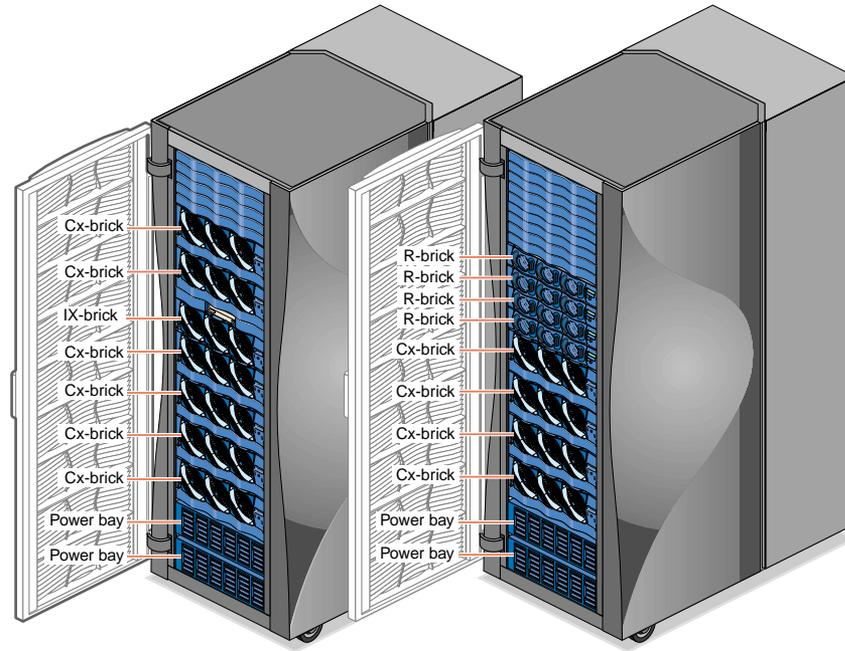
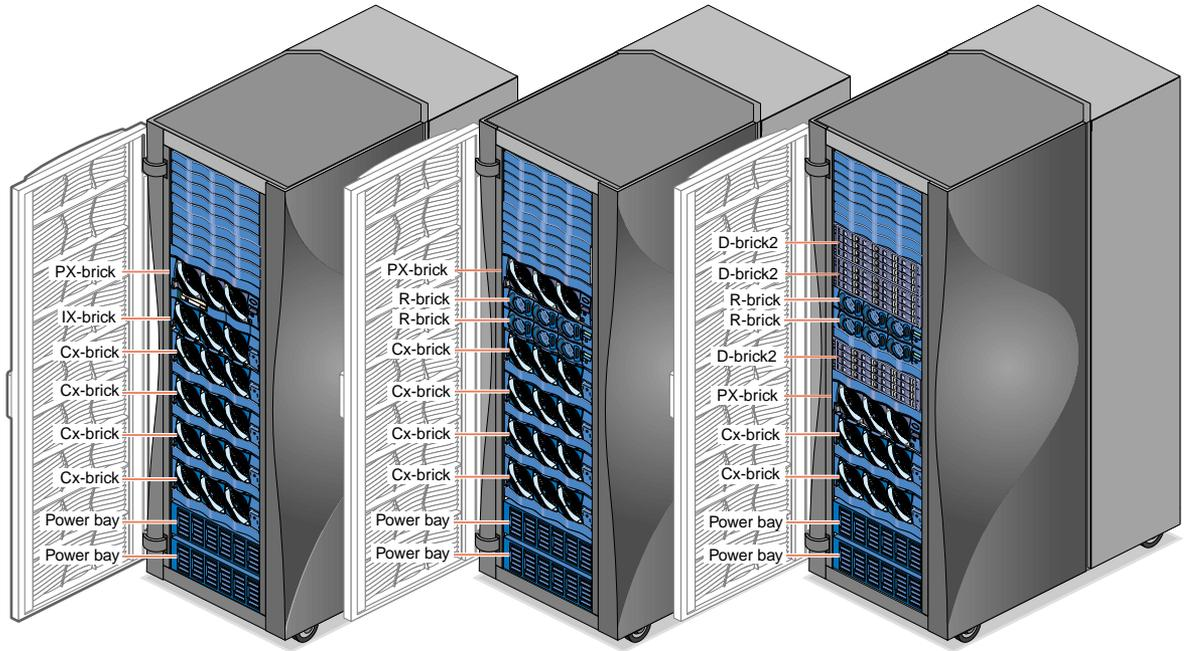

Figure 2-5 10 Cx-brick System in Two Racks
Figure 2-6 10 Cx-brick System in Three Racks
- An Origin 3900 server is configured so that the server resides in the smallest footprint possible and so that the Cx-bricks are placed low within the racks. The number of compute racks is determined by the number of Cx-bricks, I/O bricks, and storage bricks in the server. For example, the smallest footprint for a 10 Cx-brick system is two compute racks; however, if an additional rack is required to house the I/O and storage bricks, a compute rack, rather than an I/O rack, is added to the system. The Cx-bricks are placed low within the three compute racks and the I/O and storage bricks are placed above the Cx-bricks (see Figure 2-5 and Figure 2-6).